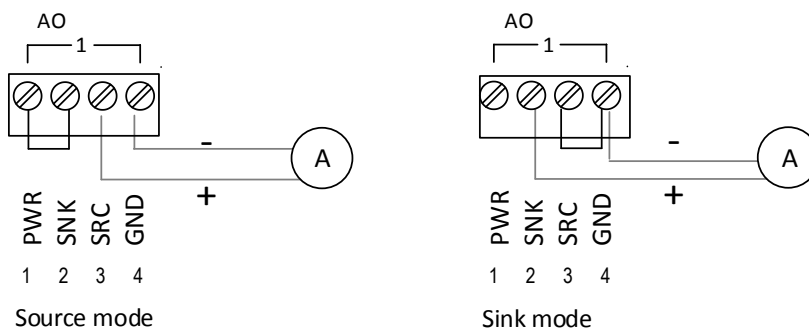

Figure 66: AO calibration with no load
Figure 66 shows the setup of equipment to calibrate an AO in source and sink mode.
1. Connect the equipment based on the preferred mode (source or sink) with no load as shown in Figure 66.